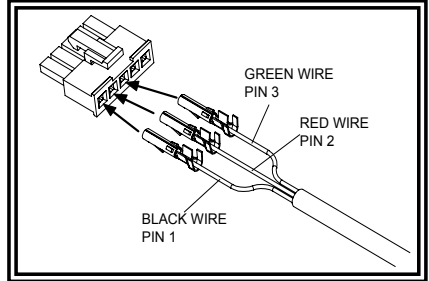

Figure 3
6. Turn pins crimp side up, and insert pins into connector as shown in Figure 3.